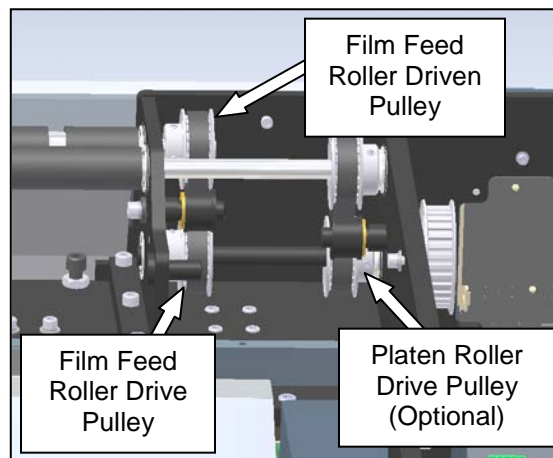

Figure 3-313. Pulleys
- Loosen the set screws on the film feed drive pulley on the transfer shaft, and the film feed driven pulley on the roller shaft. Note: if the Sharp SX™ is equipped with a printer, also loosen the set screws on the platen roller drive pulley (Figure 3-313).